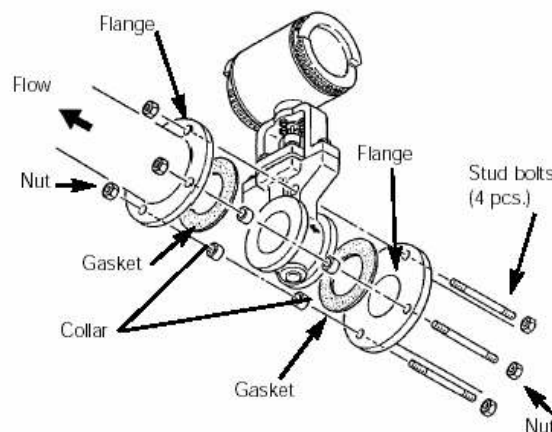

Figure 3-16
(1). Four collars are supplied for 1/2-inch (15 mm) to 1 1/2-inch (40 mm), 2-inch (ANSI class 150) and 3-inch (ANSI class 150). Install the instrument as illustrated in Fig. 3-16.
2. Place the flowmeter body on the lower two bolts (see fig. 3-16).